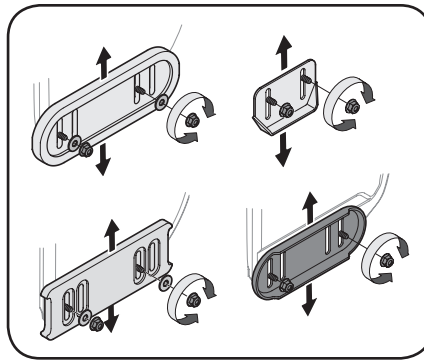

Figure 2-41
3. Retighten hex nuts, washers (if equipped) and carriage bolts securely. See Figure 2-41.